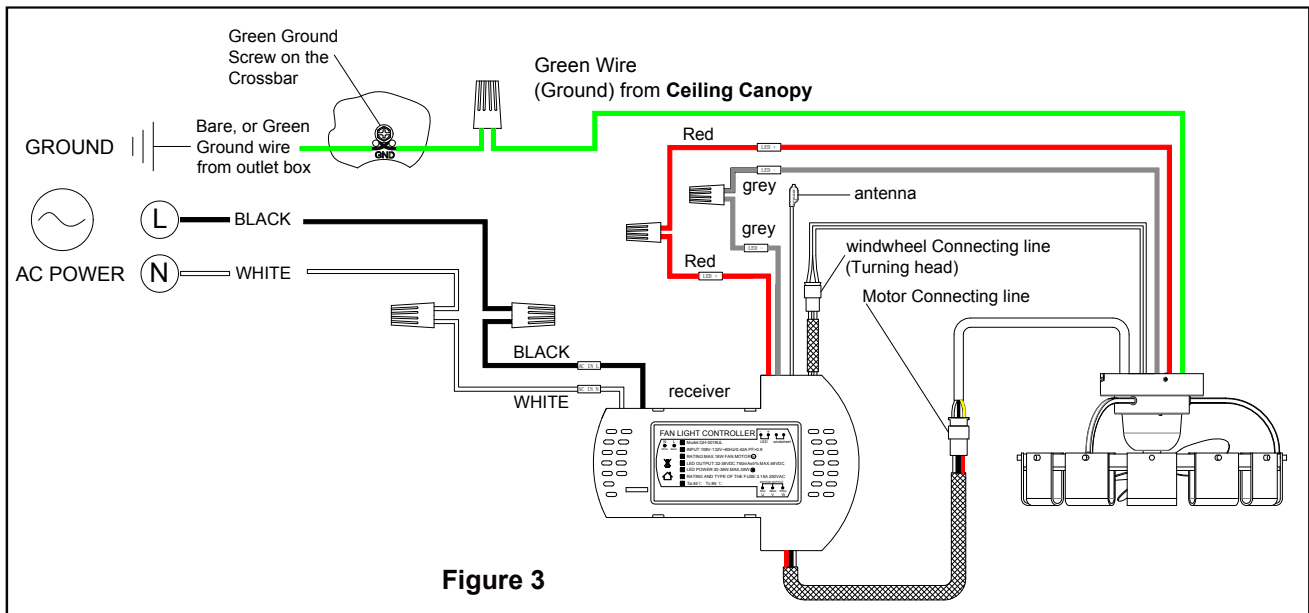

Figure 3
- Connect the windwheel (Turning head) plug wire to the receiver female socket small. (Figure 3)